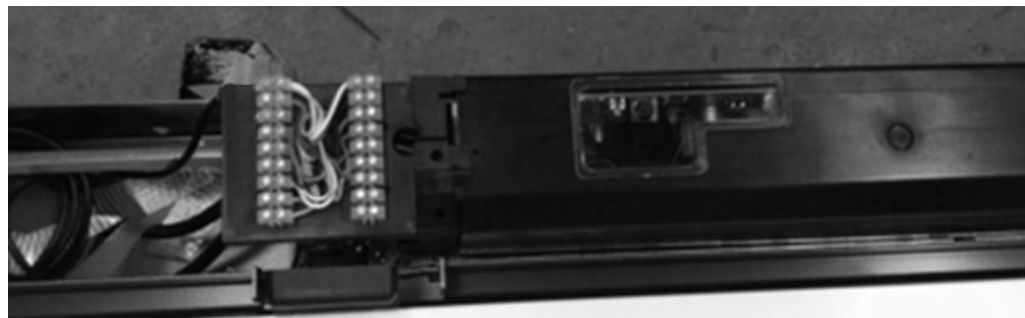

Figure 5-1
- Remove the left cover of the upper traverse using a 4 mm Allen key (fig. 5-1).
The devices for the remote operation of the automated door involve the use of portable transmitters (fig. 5-1) with variable code and encrypted transmission (maximum security against the cloning). These transmitters can be two-channel or four-channel and send the signal to the respective receivers (built-in dual channel receiver or four-channel receiver for outdoor use) of the auto-learning type. Since each channel (i.e. each key) corresponds to a precise function, it follows that the transmitter controls a number of operations (open/stop/close of the garage door, opening/closing of a gate, lighting of the garage, integration of an anti-intrusion device, etc.) equal to the number of keys present on it. The built-in 2-channel receiver is mounted onto the printed circuit board of the motorization and its first channel is used for the open/stop/close function, while the second channel is useable when connected to the terminals of the relay. The external four channel receiver is supplied in a plastic housing and can be installed inside or outside the garage. The transmitters leave the factory “ready for use”, meaning that the cryptographic code (personal and secret) of the transmitter is already programmed into the receiver.